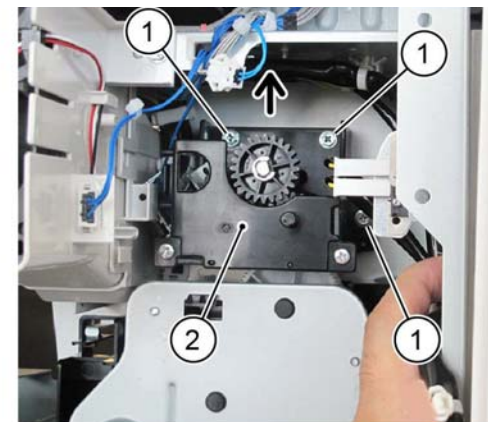

Figure 3 Exit 1 transport assembly
7. Move the exit 1 transport assembly, Figure 3:
- a. Remove three screws (1).
- b. Move the exit 1 transport assembly (2) upward.